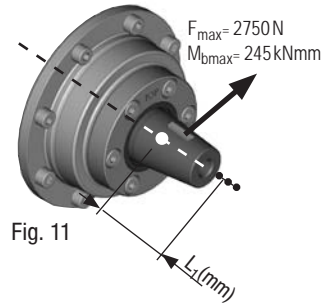

Fig. 11
- The force applied at the force engagement force by the belt tension (see Fig. 11) must not exceed $F_{\max} = 2750 \text{ N}$.
- If the force engagement point shifts forwards (see Fig.11, small point), the force F_{\max} reduces as per the following formula: